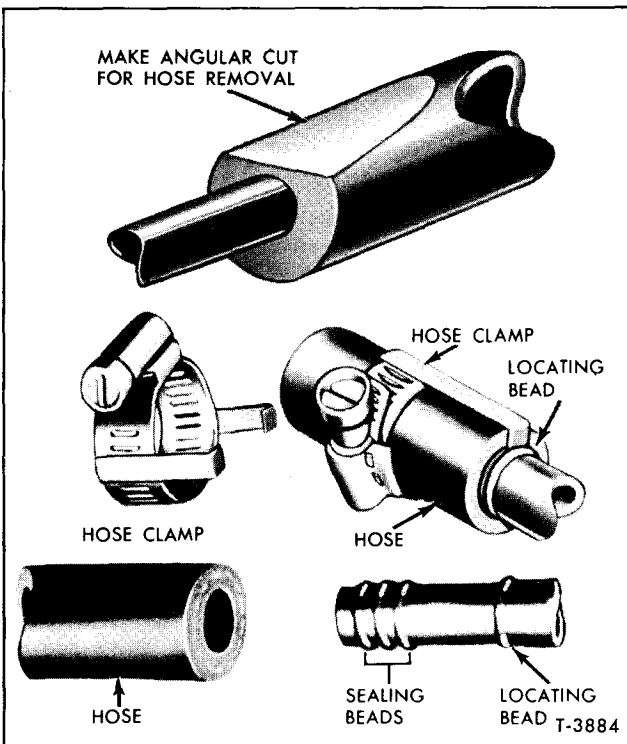

Figure 27-Hose Clamp Connections
1. Carefully, with a sharp knife, make an angle cut in the hose as shown in Figure 27. This should loosen the hose so that it may be worked off the fitting.